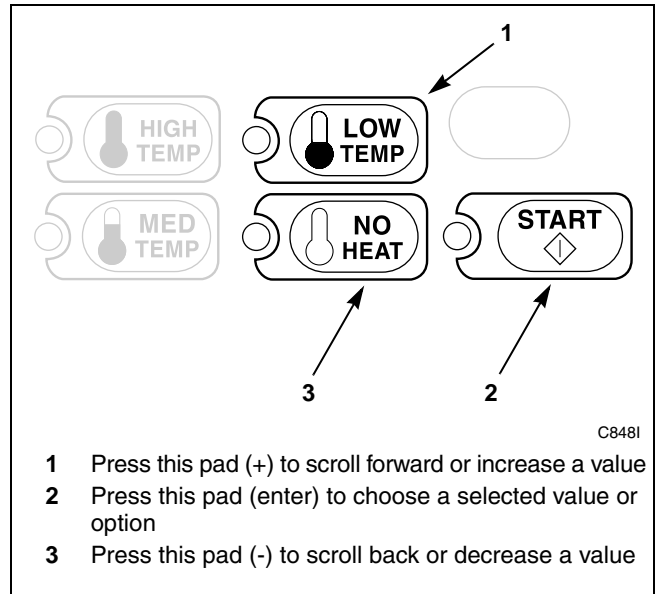

Figure 53
5. Press the LOW TEMP (+) or the NO HEAT (-) keypad to increase or decrease the end month to the desired month. Refer to *Figure 53*.